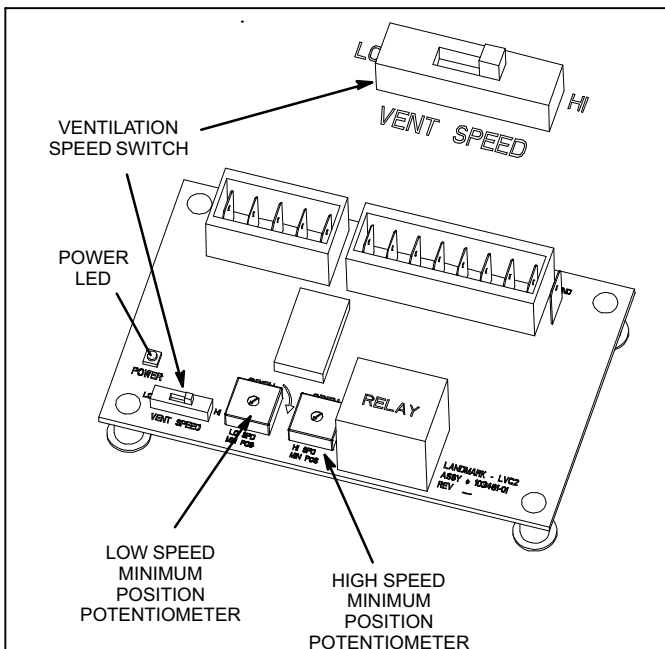

Figure 17. VFD Control Board
To save energy during ventilation, the blower speed can be set to low. This is accomplished by changing the ventilation speed switch on the VFD control board to **LO**. See figure 17.
Note - AFTER setting minimum positions, set the "VENT SPEED" switch on the VFD control board to the desired speed. See figure 17.
21. *AFTER setting both minimum positions, set the "VENT SPEED" switch on the VFD control board to the desired speed. See figure 17.*